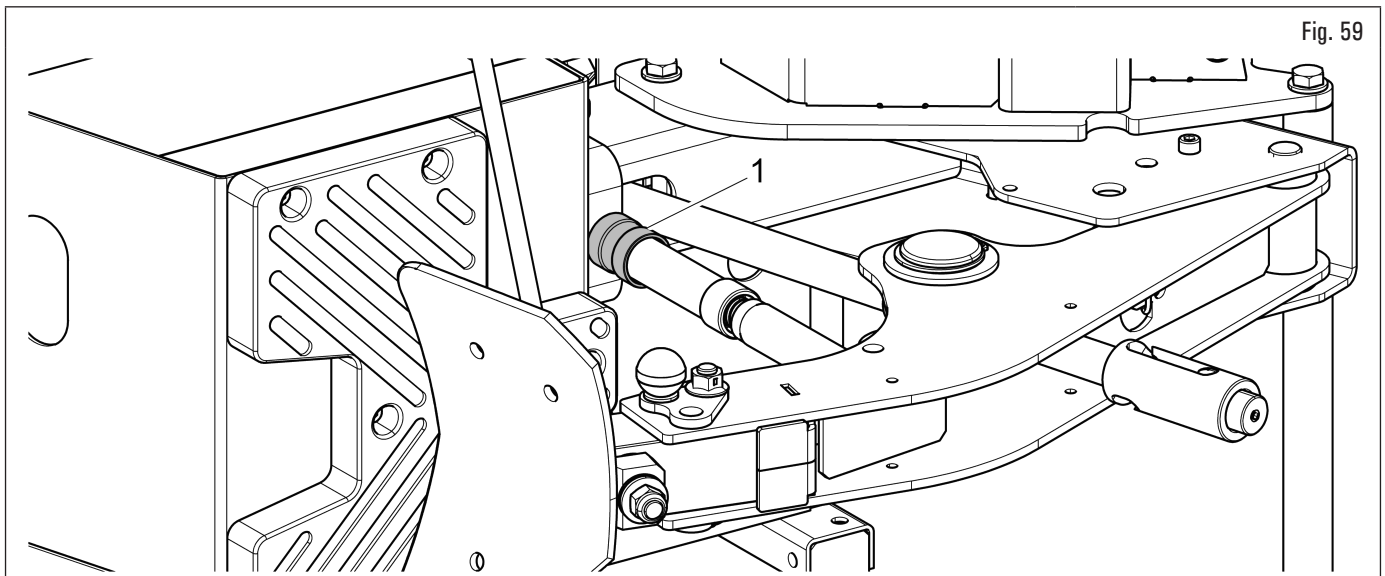

Fig. 59
2. adjust the travel of the bead breaker stroke limiter by acting on its adjustment ring nut (Fig. 59 ref. 1), so that the shovel can penetrate beyond the edge of the rim for a height equal to the height of a wedge of the bead press extension;